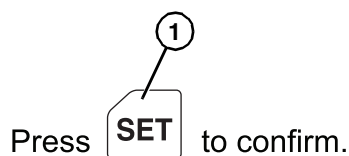

Figure 40
3. Press SET (Figure 40, item 1). The new speed will be set to the operation data digitally.